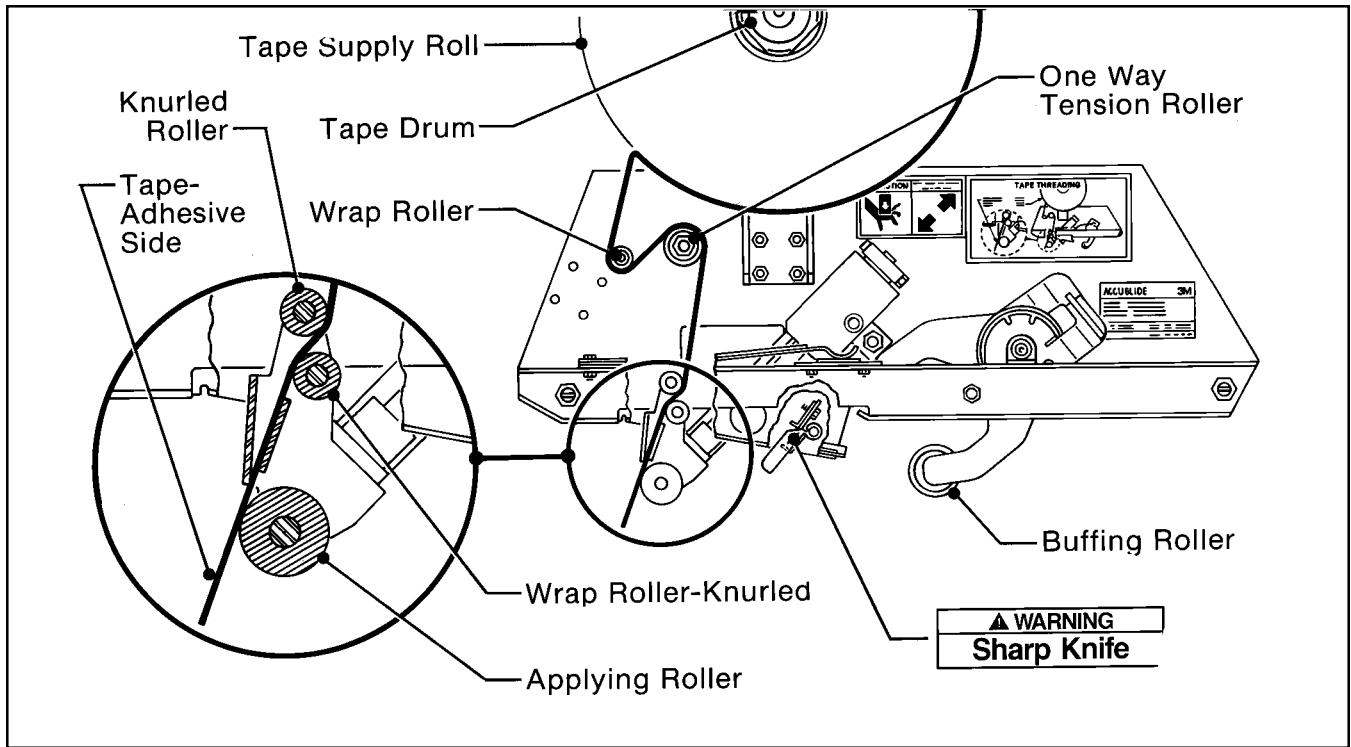

Figure 4-1 – Tape Threading Diagram – Upper Taping Head
1-1 The “**Warning – Sharp Knife**” label is used on each head to warn operators and service personnel of the extremely sharp blades used to cut the tape at the end of the box sealing operation. The label shown in Figure 1-1 is located on the blade guard assembly between the applying roller assembly and the buffing roller assembly. Before working with the tape heads or attempting to load the tape, refer to Figures 4-1 and 4-2 and identify the knife blade location. Keeps hands out of these areas except as necessary to service the taping heads.
**BOTH THE UPPER AND LOWER TAPING HEADS UTILIZE EXTREMELY SHARP KNIFE BLADES. THE BLADES ARE LOCATED UNDER THE ORANGE BLADE GUARD WHICH HAS THE “WARNING - SHARP KNIFE” LABEL. BEFORE WORKING WITH THE TAPING HEADS OR ATTEMPTING TO LOAD THE TAPE, REFER TO FIGURES 4-1 AND 4-2 AND IDENTIFY THE BLADE LOCATION. KEEP HANDS OUT OF THESE AREAS EXCEPT AS NECESSARY TO SERVICE THE TAPING HEADS.**
1. BOTH THE UPPER AND LOWER TAPING HEADS UTILIZE EXTREMELY SHARP KNIFE BLADES WHICH ARE LOCATED UNDER THE ORANGE BLADE GUARD WITH THE “WARNING –w SHARP KNIFE” LABEL. REFER TO FIGURE 4-1 AND 4-2 AND IDENTIFY THE BLADE LOCATIONS KEEP HANDS OUT OF THIS AREA EXCEPT AS NECESSARY TO SERVICE THE TAPING HEADS.
Refer to Figures 4-1 and 4-3